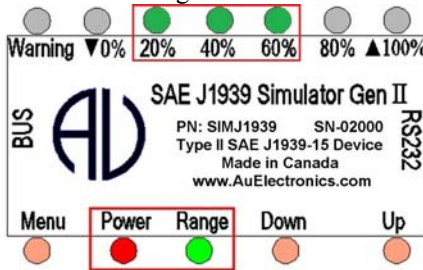

Figure 3-5 Power, Range, 20%, 40%, 60% LED on, indicates data ranges from 61% to 79%
- If keep pressing **Up** button, the control step value will keep rising, the 20%, 40%, and 60% LED will be on, as shown in Figure 3-5, it indicates the data range from 61% to 79%.